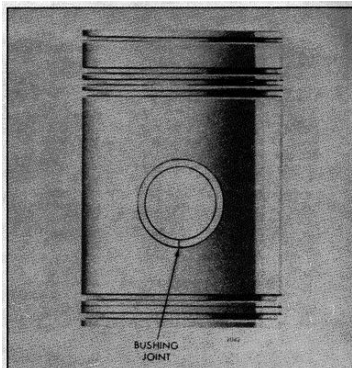

Fig. 6 - Location of Joint in Piston Pin Bushings
- NOTE:** Locate the 'joint' in the bushing toward the bottom of the piston (Fig. 6).